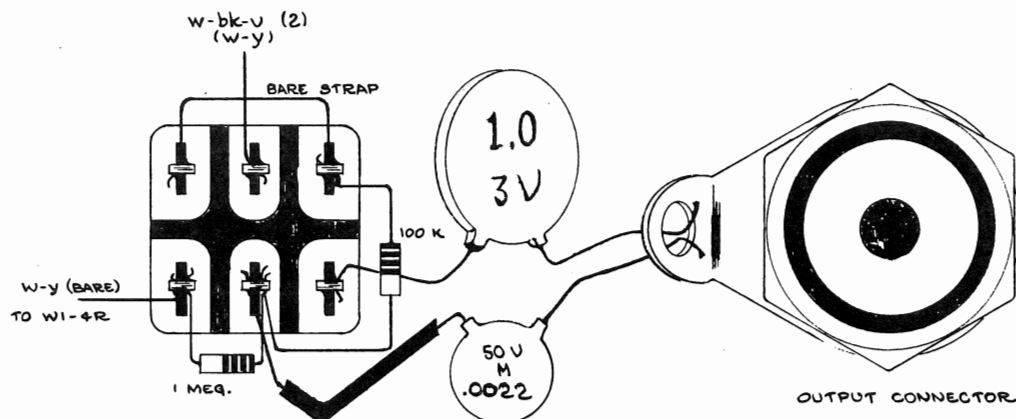

Fig. 3
- ( ) Resolder it to the terminal indicated in Fig 3.
- ( ) 17. Solder one end of the 2-1/2 in. white-yellow wire (from kit) to the switch terminal indicated in Fig 3 (in parenthesis, upper center in figure).
- ( ) 18. Solder a 1-1/2 in. piece of bare wire (from kit) to the SELECTOR switch, W1-4R. Place the length of insulated tubing (from kit) over the wire and dress the wire to the switch terminal indicated in Fig 3. DO NOT SOLDER YET.
- ( ) 19. Resolder the components and wires to the switch as indicated in Fig 3.
- ( ) Cut off the excess wire and solder, along with the white-black-violet wire (from kit) to the switch terminal indicated in Fig 3.
- ( ) 27. Resolder the remainder of the components and wires indicated in Fig 3.
NOTE: Fig. 3 shows the wiring for amplifier "A". Amplifier "B" wiring differs only where shown in parenthesis.